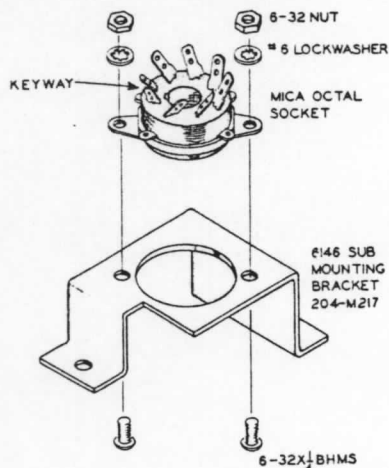

Figure 4
- (✓) Locate the 6146 submounting bracket (#204-M217) and mount the mica octal socket on it, using 6-32 x 1/4" BHMS, #6 lockwashers and 6-32 nuts. Refer to Figure 4, and position as shown.